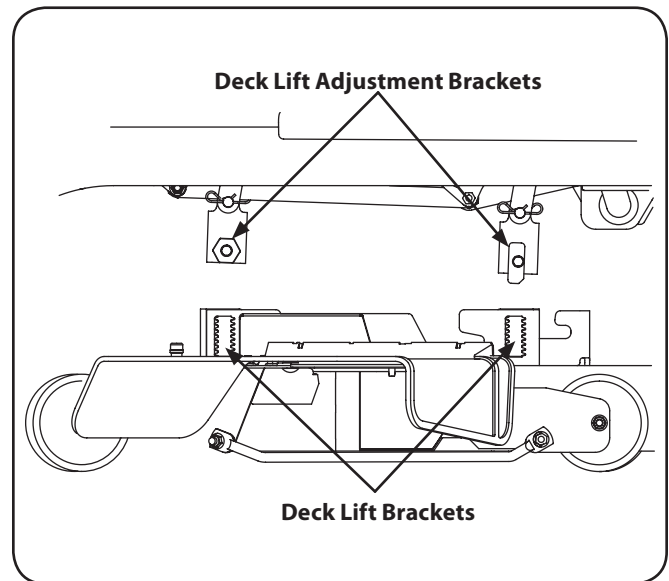

Figure 7-6
- Slide the deck under the tractor on the right side of the tractor lining up the deck lift adjustment brackets and the deck lift brackets on the deck. See Fig. 7-6.